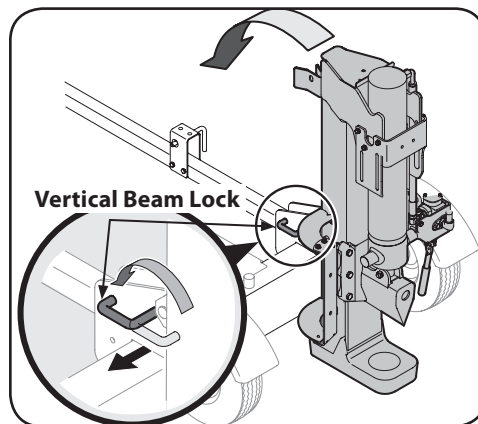

Figure 3-3
12. Pull out the vertical beam lock, rotate it back, and pivot the beam to the horizontal position until it locks. Be sure to avoid any possible pinch points. See Figure 3-3